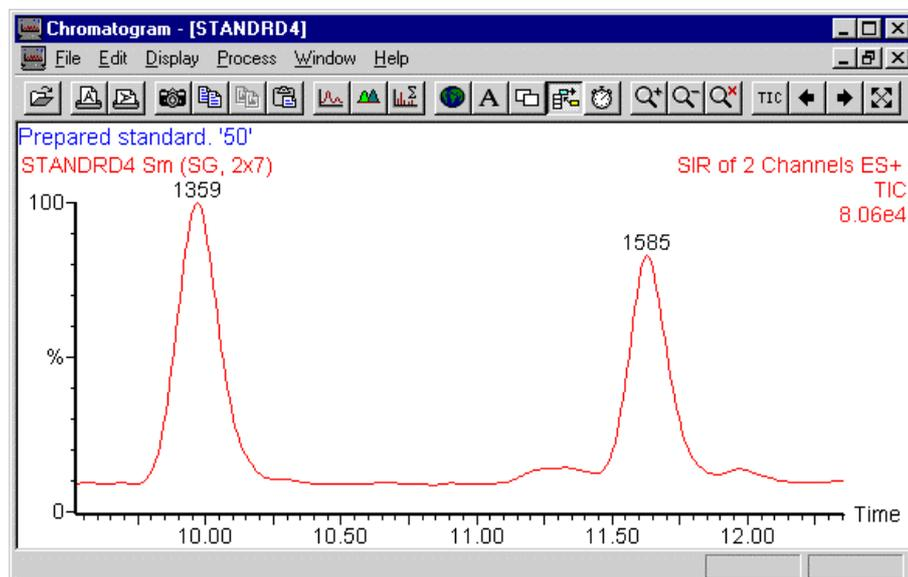

Figure 3.18 Results of chromatogram smoothing
2. Set the **Window size** parameter. The number you specify is the half-width of the smoothing window in scans. This parameter can be set automatically by clicking the right mouse button, and dragging across a chromatogram peak at half height (Figure 3.18).